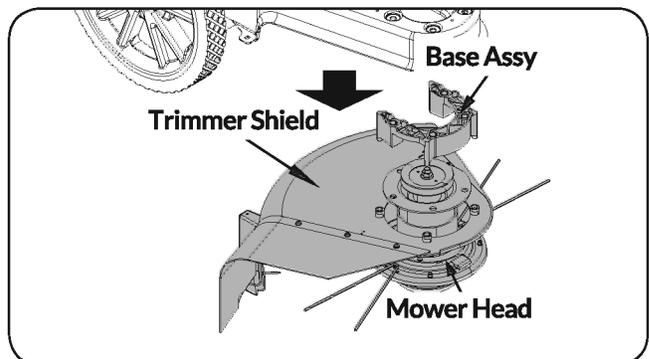

Figure 21
5. Remove the shield, mower head, and base assembly. (See **Figure 21**)